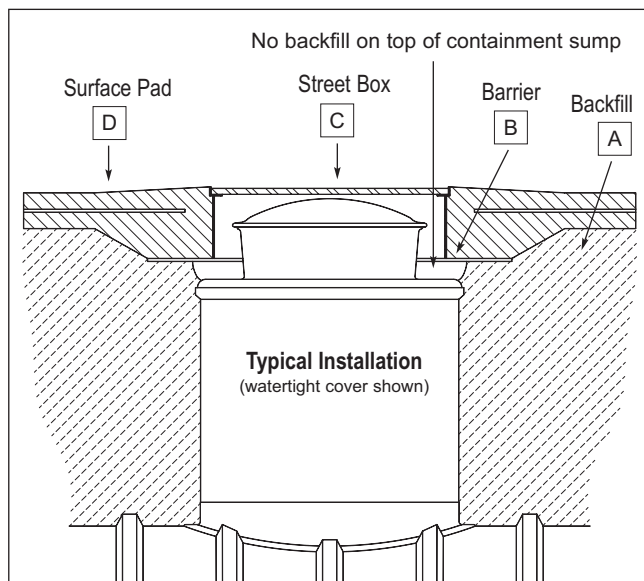

FIGURE 16-1
16.2.2. Backfill around the outside edge of the containment sump, making sure that no backfill is on top of the containment sump. See FIGURE 16-1, Area A.
16.2.3.2. Typically, a sheet of plywood (or other material) is used as a barrier and is set on the backfill to ensure that there is at least a 3-inch clearance above the containment sump top. See FIGURE 16-1, Area B.
16.2.5. Set the street box, and check for clearance to allow access and space to remove the watertight cover. See FIGURE 16-1, Area C.
16.2.6. Continue with backfill, as required, to subgrade. See FIGURE 16-1, Area A.
16.2.7. Maintain good drainage of water away from the access opening of the containment sump top when installing the surface pad. See FIGURE 16-1, Area D.